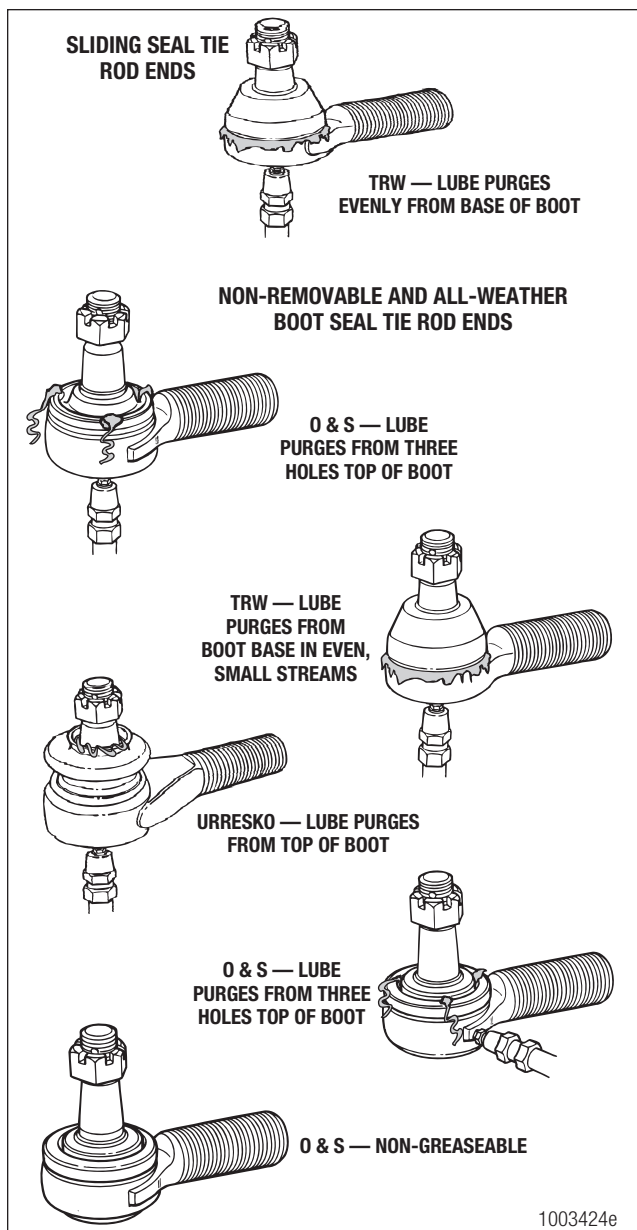

Figure 11.5
3. Apply the specified grease at the grease fitting until new grease purges from the seal. If using air pressure, do not exceed 150 psi (1035 kPa). Grease should purge from the holes near the boot crimp or bellows area, usually at three or more places. Wipe away excess grease. Figure 11.5.